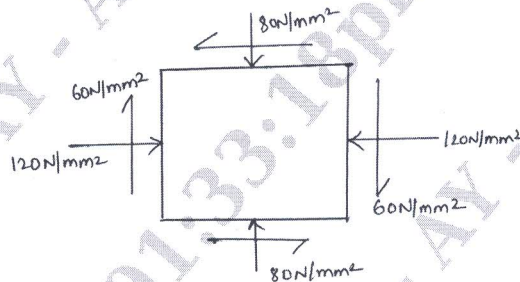

Fig.Q.4(b)
b. The state of stress in two dimensionally stressed body is shown in Fig.Q.4(b). Determine the principal stresses, principal planes, maximum shear stress and their planes. Also draw the Mohr's cycle to verify the results obtained analytically. (16 Marks)